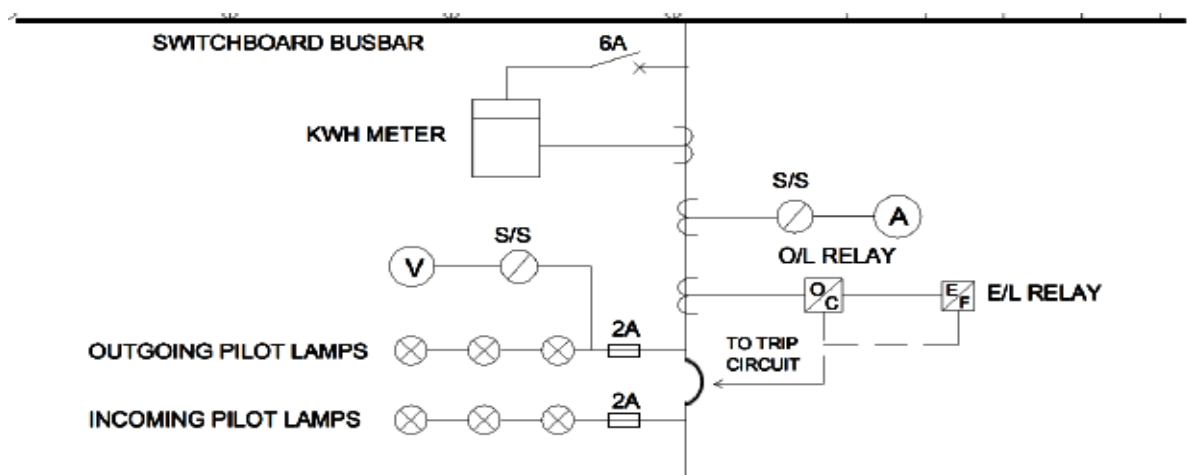

Figure 11-7 – Incoming accessories when $I_T > 300 \text{ A}$
- ❖ **Figure 11-7** - for the incoming current more than 300 Amp, i.e. $I_T > 300 \text{ A}$.